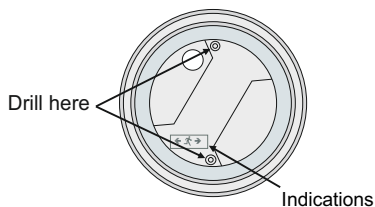

Figure 5
Step 3. Drill 2 holes on the base using a 4mm drill bit in order to permit the retaining screws to pass. Mark these two drilled points on the required mounting location, drill the holes and install the supplied plastic plugs. **ATTENTION!!** Especially for the **GR-290/WP/M** and **GR-292/WP/M** luminaire installation on the ceiling you must align the base with the indications on the luminaire's base (Figure 5).